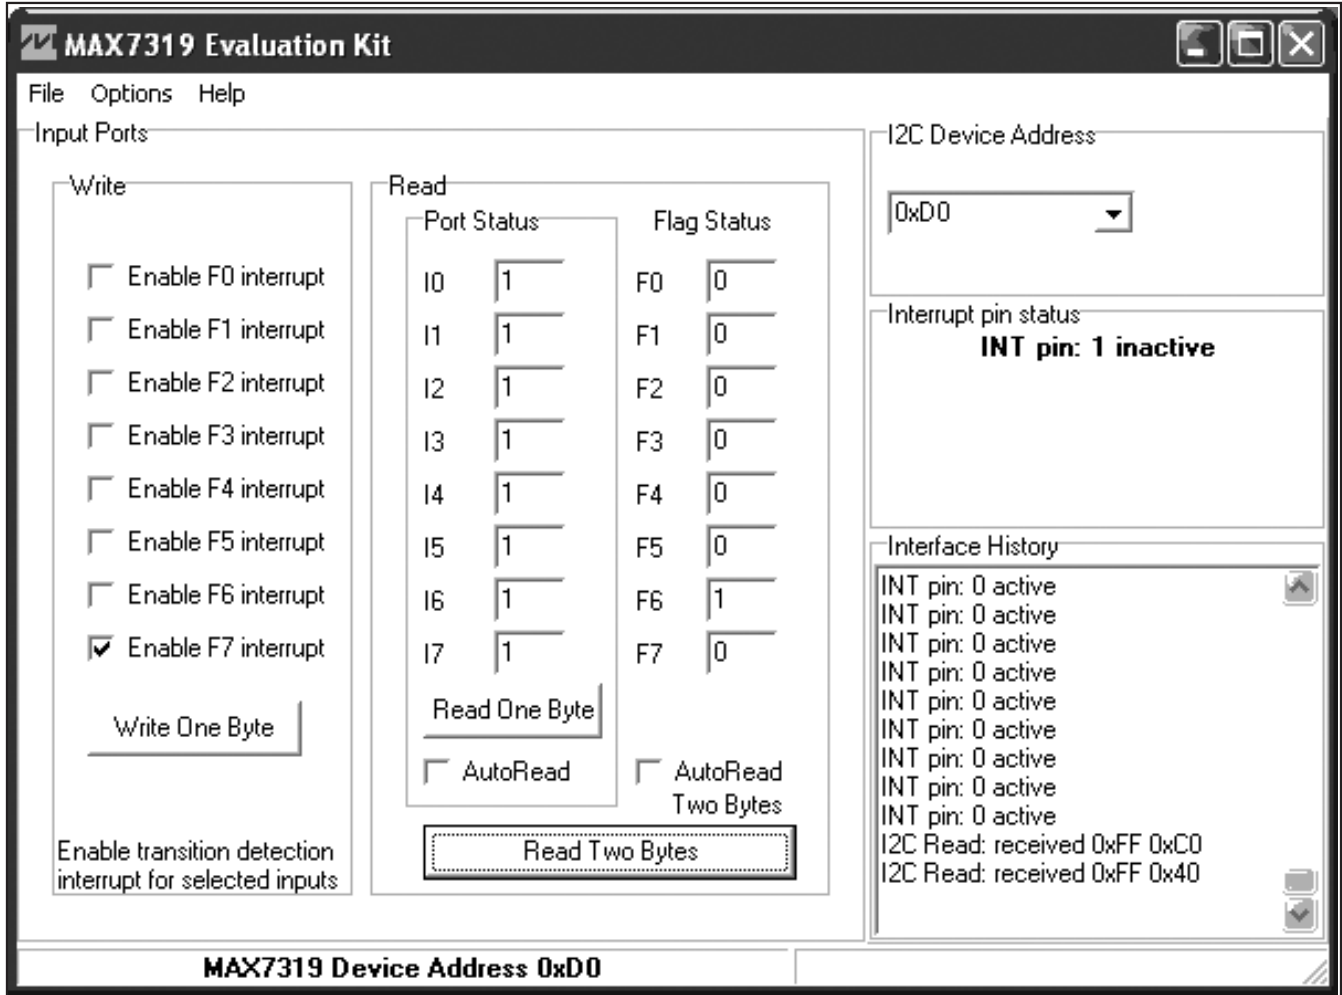

Figure 1. MAX7319 EV Kit Software Main Window
- 6) Start the MAX7319 EV kit software by opening its icon in the **Start | Programs** menu. The EV kit software main window appears, as shown in Figure 1.
The main window of the evaluation software is shown in Figure 1.